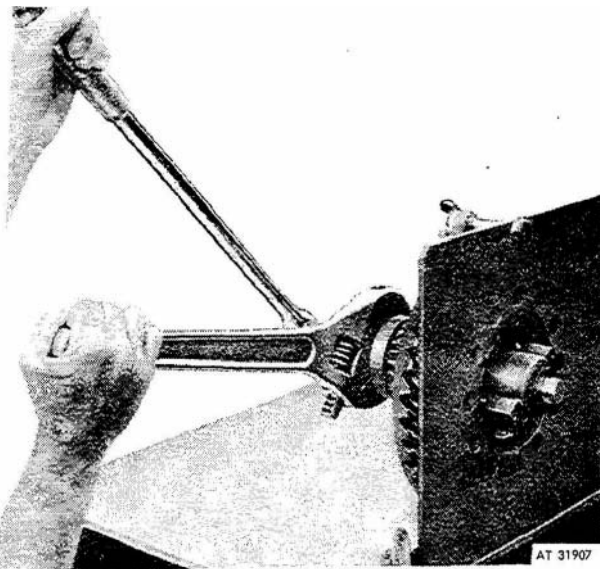

Figure 3-111. Compressing drive springs prior to measurement.
(13) Position gage block assembly (6, fig 3-102) on shaft (1) and secure block assembly to shaft with shoulder screw (8) and spherical washers (7). Flat face of concave washer goes against gage block end-face and concave face mates with convex face of other washer. Hold shaft (1) with a suitable 11/8 inch socket wrench and tighten nut (2) securely, approximately 100 lbs-ft. torque, with a suitable end wrench to compress drive springs (8, fig 3-99) as shown in figure 3-111.